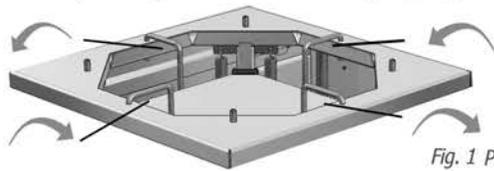
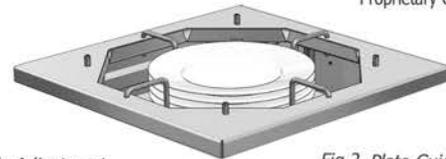

Fig. 1 Plate Guide Adjustment
Fig.2 Plate Guide Testing
C) Setting Dispenser Plate Guides To Suit Plate Diameter. If the dispenser is a heated model, ensure the unit is electrically isolated & remove the polycarbonate lid (if fitted). Lift up each of the plate guides & turn them outwards or inwards to allow the particular plate diameter to fit inbetween them (Fig. 1). The plates can be between 8"-12" (205mm-305mm) diameter. Test the plate guides are adjusted to suit the required plate diameter by placing a few inside the top of the dispenser (Fig. 2). The diameter is now set.